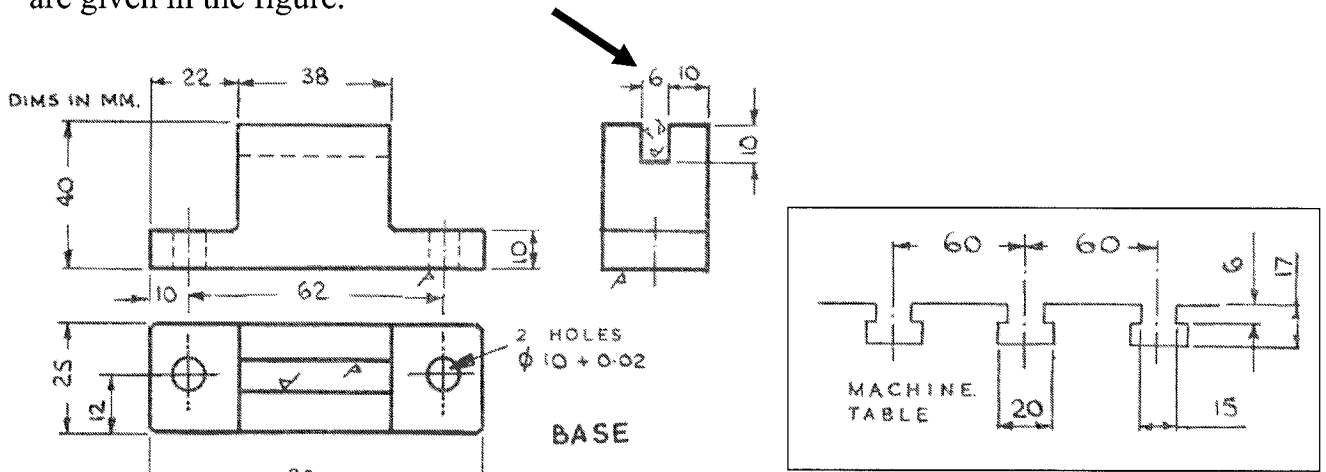

Fig. 3
- c- Design a milling fixture for use when milling the 6 mm slot in the Base shown in Fig.3. This is the last machining operation to be done on the Base. Details of the milling machine table are given in the figure.